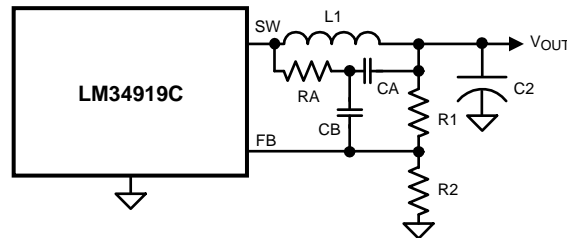

Figure 13. Minimum Output Ripple Using Ripple Injection
b) Minimum ripple configuration: The circuit of Figure 13 provides minimum ripple at V_{OUT} , determined primarily by characteristics of C2 and the inductor's ripple current since R3 is removed. RA and CA are chosen to generate a sawtooth waveform at their junction and that voltage is AC-coupled to the FB pin via CB. To determine the values for RA, CA and CB, use the following procedure: